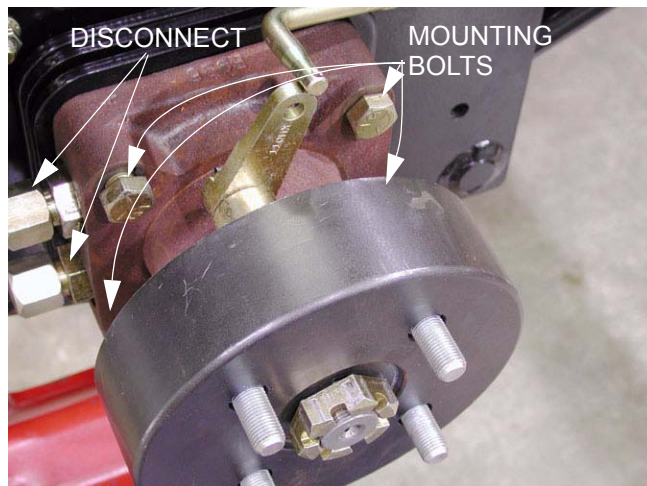

Figure 6.13
- 6.11. Remove the hairpin clip that secures the brake link to the brake arm. Pivot the arm out of the way. See Figure 6.13.
- 6.13. Disconnect the high pressure lines from the the hydro motor one at a time using a 7/8" wrench. A 1" wrench may be required to hold the fittings on the hydro motor. Plug the lines. See Figure 6.13.